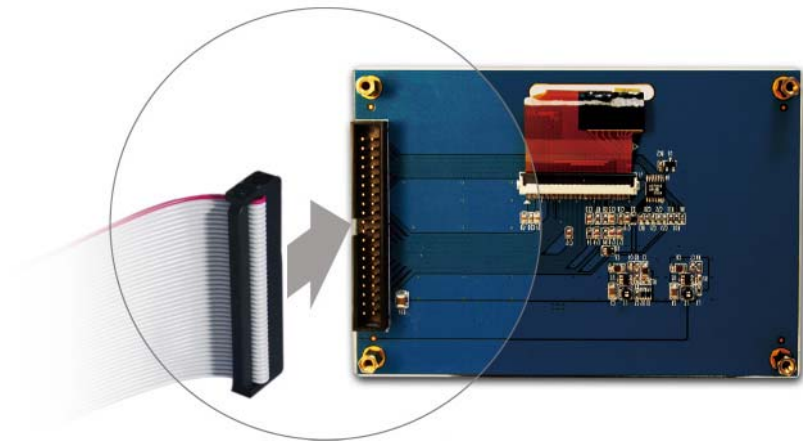

Figure 1.2 Connect the IDE cable to the TRDB\_LTM board
1. Connect the IDE cable to the back of the LTM board, as shown in Figure 1.2